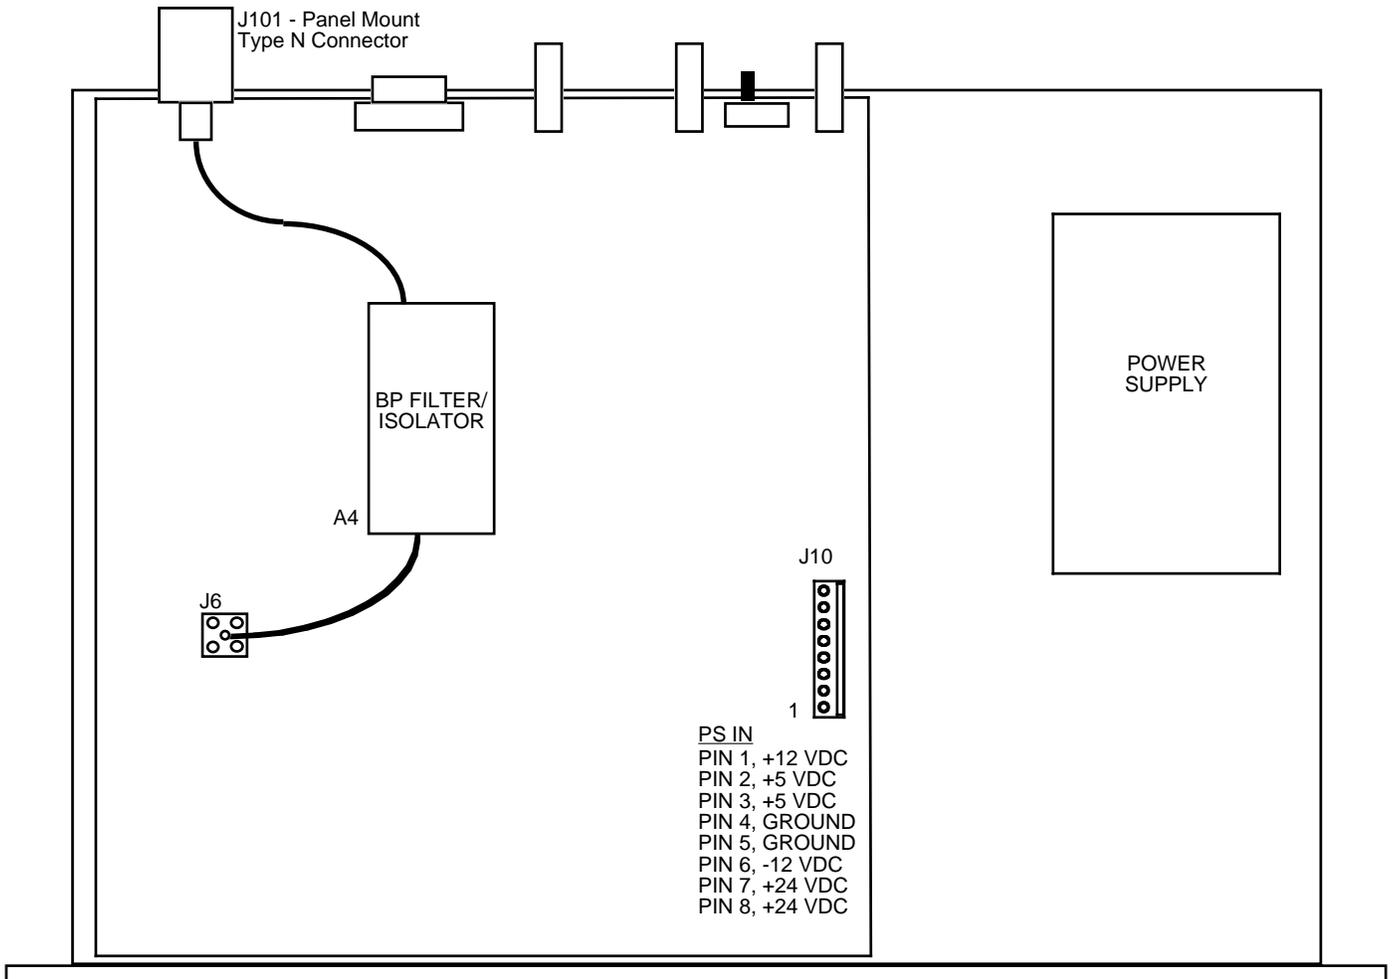

FIGURE 2.0 2116-23#-1100 Mechanical Assembly
2.1 Mechanical - The 2116-23#-1100 consists of one RF PCB housed in a 1 RU (1 3/4 inch high) by 12 inch deep chassis. A switching, ± 12 , +24, +5 VDC power supply provides power for the assemblies. The 2116-23#-1100 can be secured to a rack using the 4 holes on the front panel. Figure 2.0 shows how the 2116-23#-1100 is assembled.